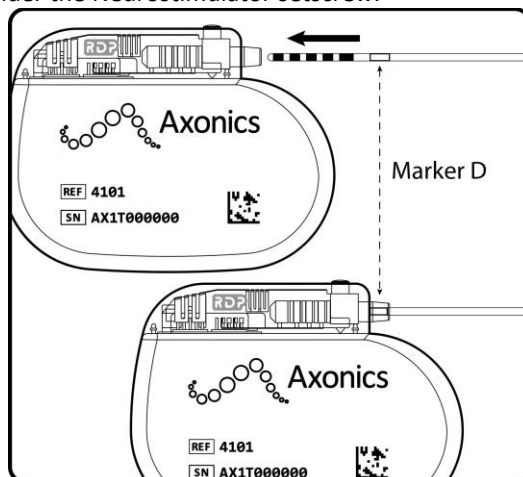

Figure 5: Insert Lead Fully into the Neurostimulator Connector Block.
4. Insert the lead into the Neurostimulator connector block until fully seated and the lead cannot be inserted further. Marker D on the lead should be inside the Neurostimulator strain relief **(Figure 5)**. The retention sleeve on the tined lead should be positioned under the Neurostimulator setscrew.
3. Use the torque wrench to loosen the setscrew in the Neurostimulator connector block by turning it counterclockwise (**Figure 5**).